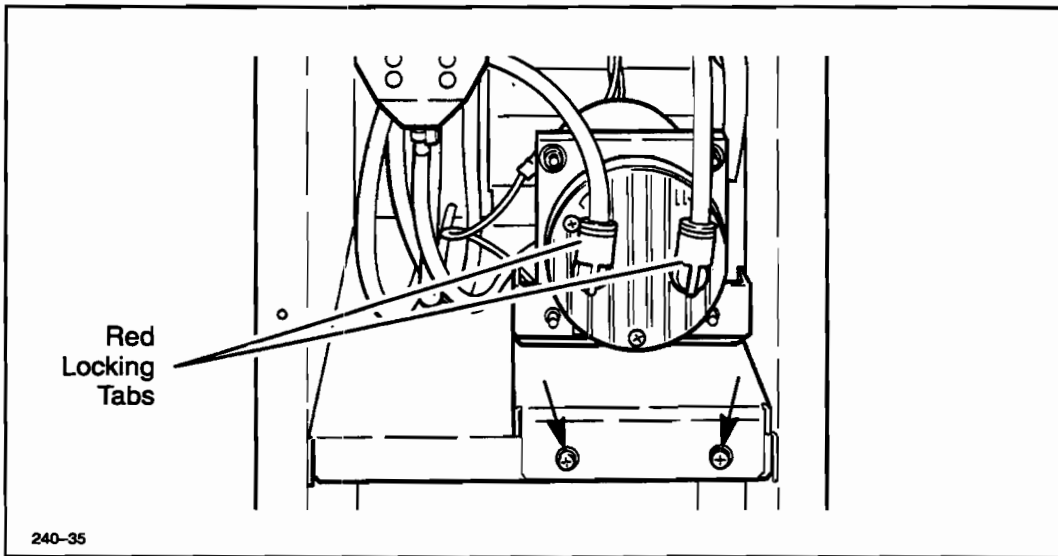

Figure 6-48. Toner Tube Removal
5. Remove the pump toner tubes by simultaneously pressing down the red locking tabs while pulling on the tubes. See Figure 6-48.
6. Using a #2 Phillips screwdriver, remove the two pump assembly mounting screws shown in Figure 6-48.